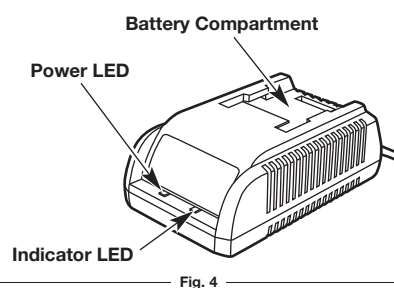

Fig. 4
2. The red Power LED will illuminate (Fig. 4).
NOTE: Make sure the battery is fully inserted into the charger by making sure the red Indicator LED charge light is on (Fig. 4).
4. Once the battery has reached a full charge level the Indicator LED will turn from red to green (Fig. 4).